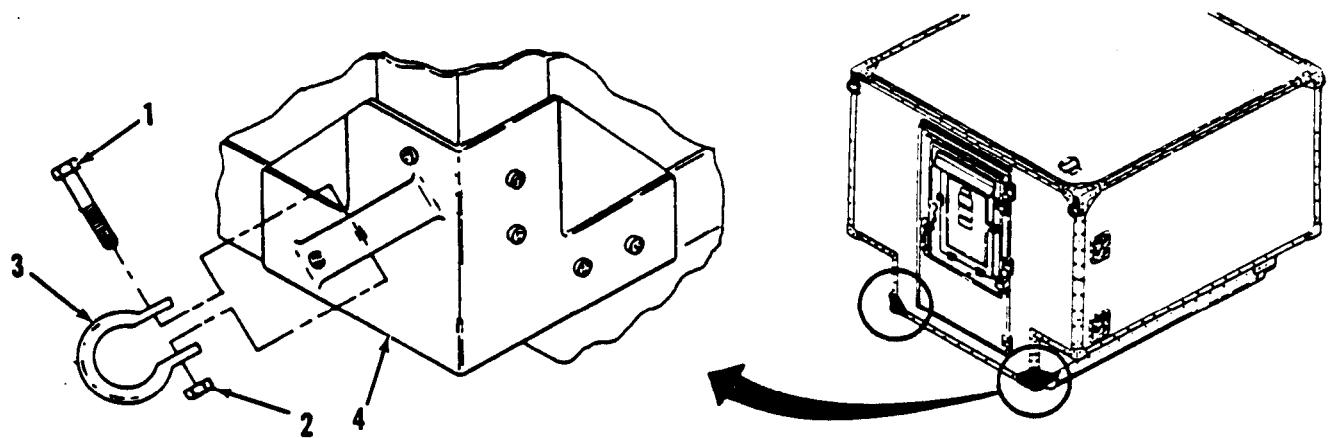

Figure 3-37. Towing Bracket Assembly Repair.
a. **Inspect.** (Figure 3-37)
(1) Inspect for free movement and secure mounting.
(2) Inspect for cracks or other external damage.
b. **Repair.** (Figure 3-37)
(1) Remove bolt (1) and nut (2) attaching towing eye (3) to bracket (4) and remove from bracket.
(2) Align mounting holes of new towing eye (3) with holes on bracket (4) and secure to bracket with bolt (1) and nut (2).